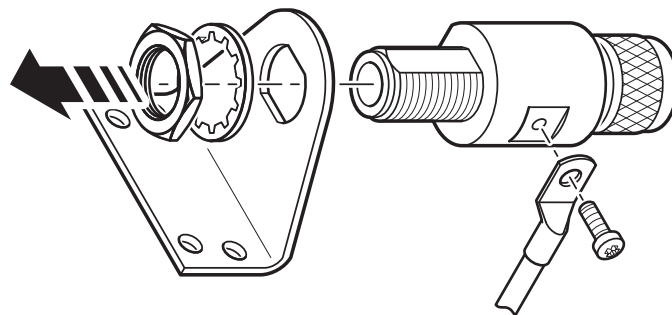

Figure 7.3: Assembly of the MBG S-PRO surge protector
2. Mount the supplied mounting bracket as shown in  Fig. 7.3, then fit the MBG S-PRO to the bracket.